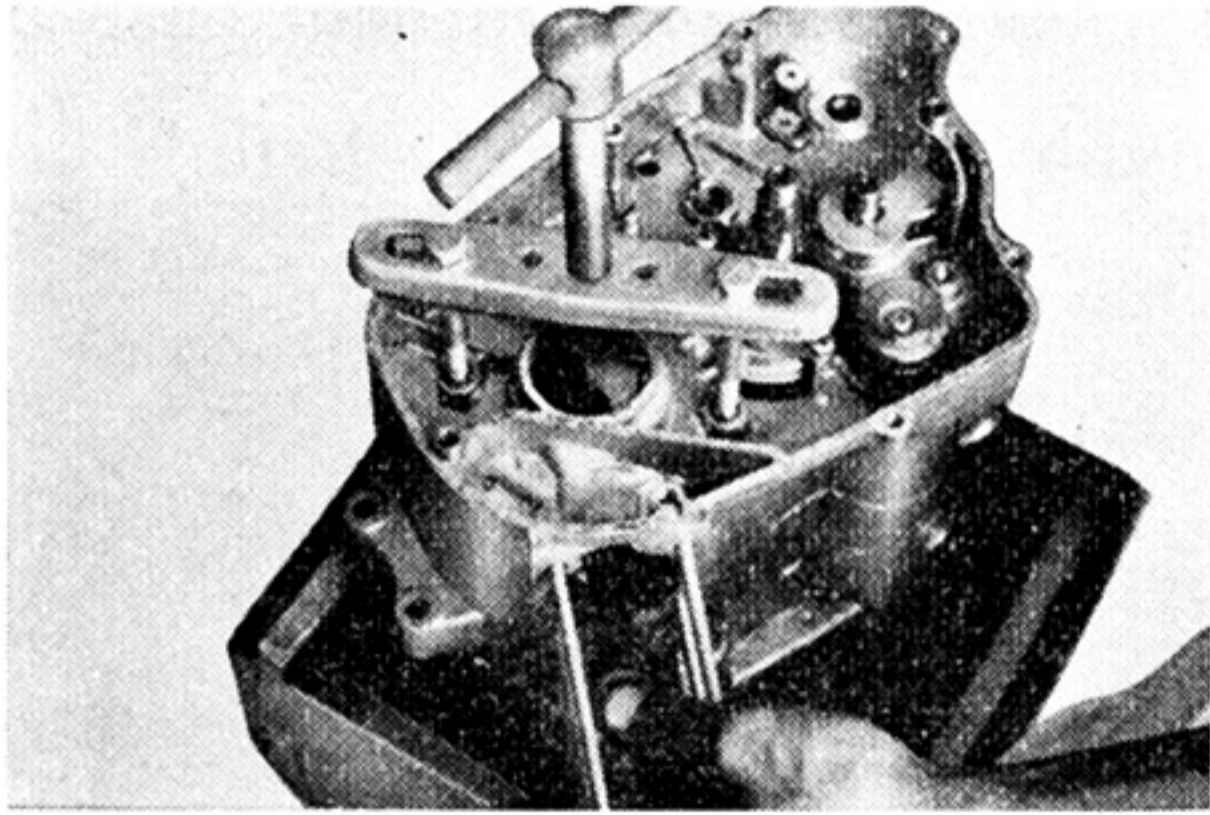

Fig. 3-14-2
- b. Install the crankcase splitting tool on the right case and alternately tap the transmission main shaft and the side of the right half with a soft-tip hammer, so that the right half will split. (Figs. 3-14-2 and 3)